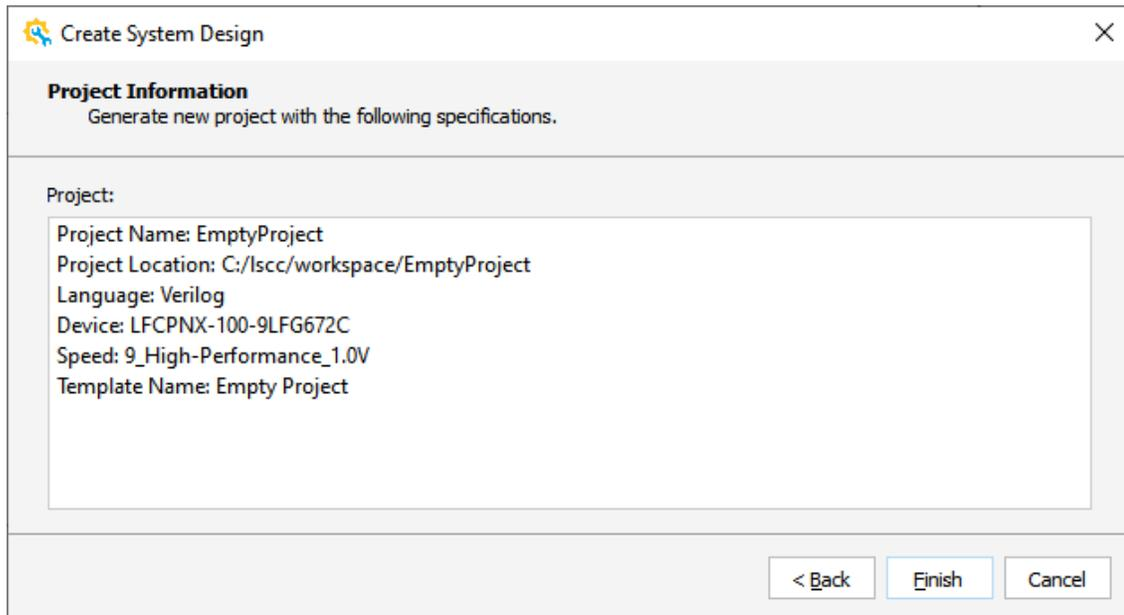

Figure 2.7. Create System Design – Project Information Wizard
- The Configure Propel Project wizard is shown (Figure 2.7). From the **Board Select** area, select the desired board, such as CertusPro-NX Evaluation.
- Click **Next**. The Project Information wizard opens (Figure 2.7).